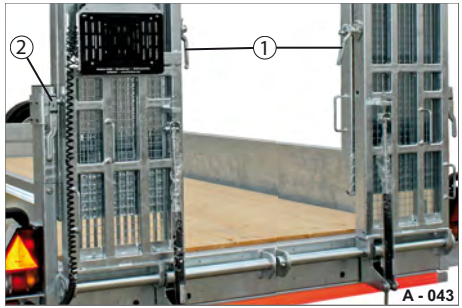

Fig. 45 Ramp, two-piece, secured
- ▶ Secure the ramps on the side with securing latches (Fig. 45/2).
- ▶ Check that the upper part of the ramps are secured with the rotary lever latch (Fig. 45/1).